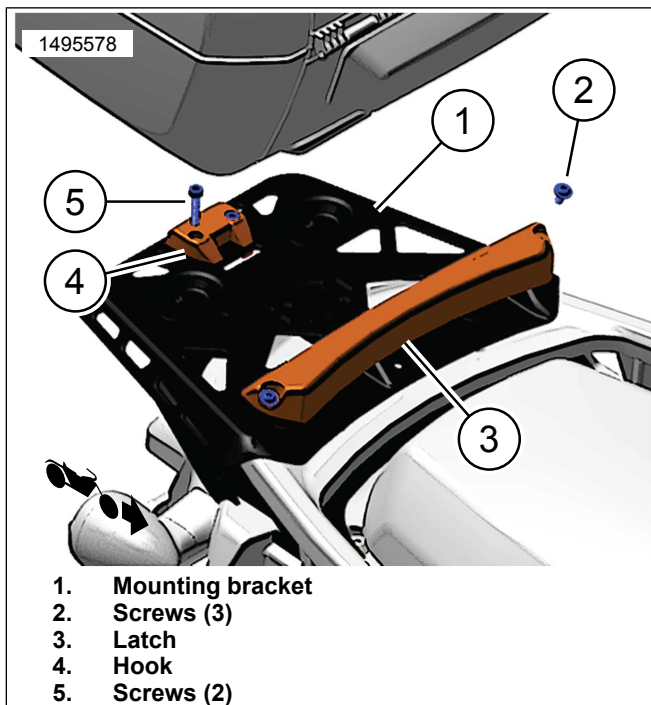
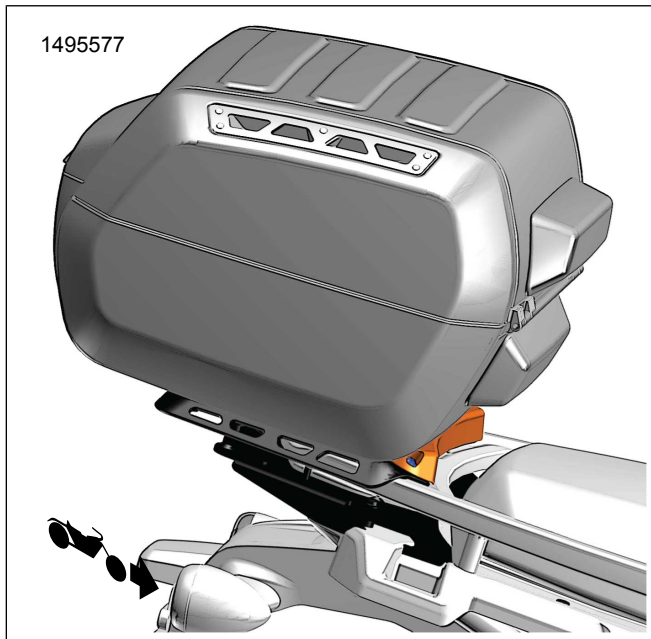

Figure 13. Mount Kit (53000812)
Figure 14. Top case Installation
1. See Figure 13. Install mounting kit to mounting bracket.
- a. Install latch (3) with three screws (2) to front of mounting bracket (1). Tighten.
3. See Figure 13 and Figure 14. Slide top case to front latch (3), rock down until it clicks into rear hook (4) .